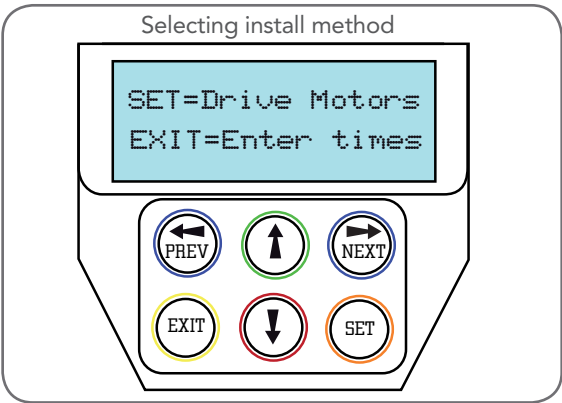

Fig I.2
- a. DCB-05V2 will now prompt for the setup procedure to be selected. There are 2 methods (Fig. I.2);